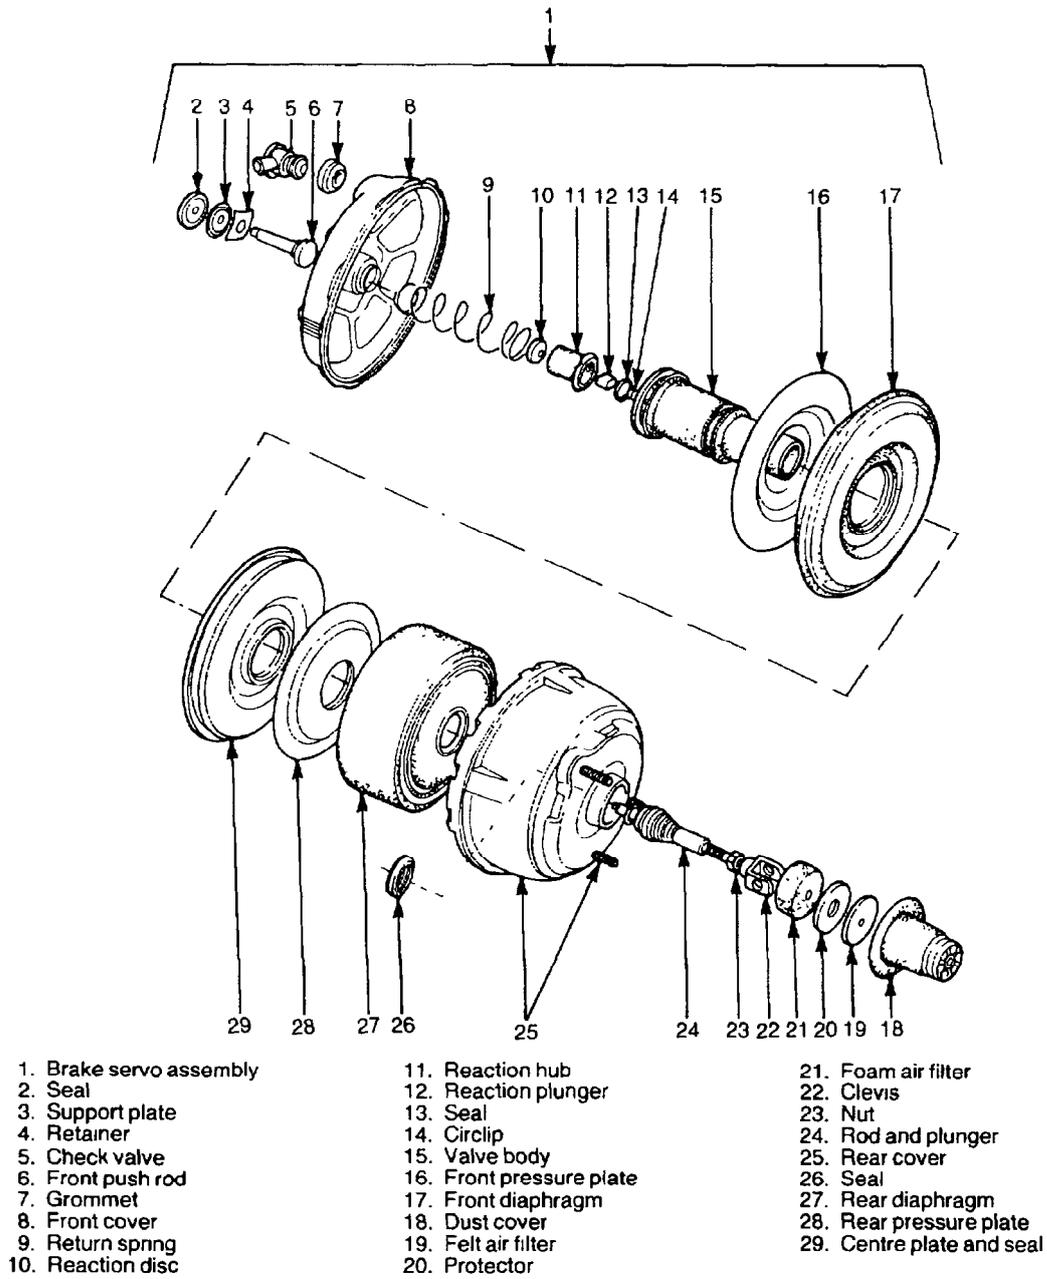

Figure 267 Servo Vacuum Chamber – Exploded View
- 93. Disassembly.** Disassemble the servo vacuum chamber as follows (Figure 267):
- 95. Reassembly.** Reassemble the servo vacuum chamber as follows (Figure 267):